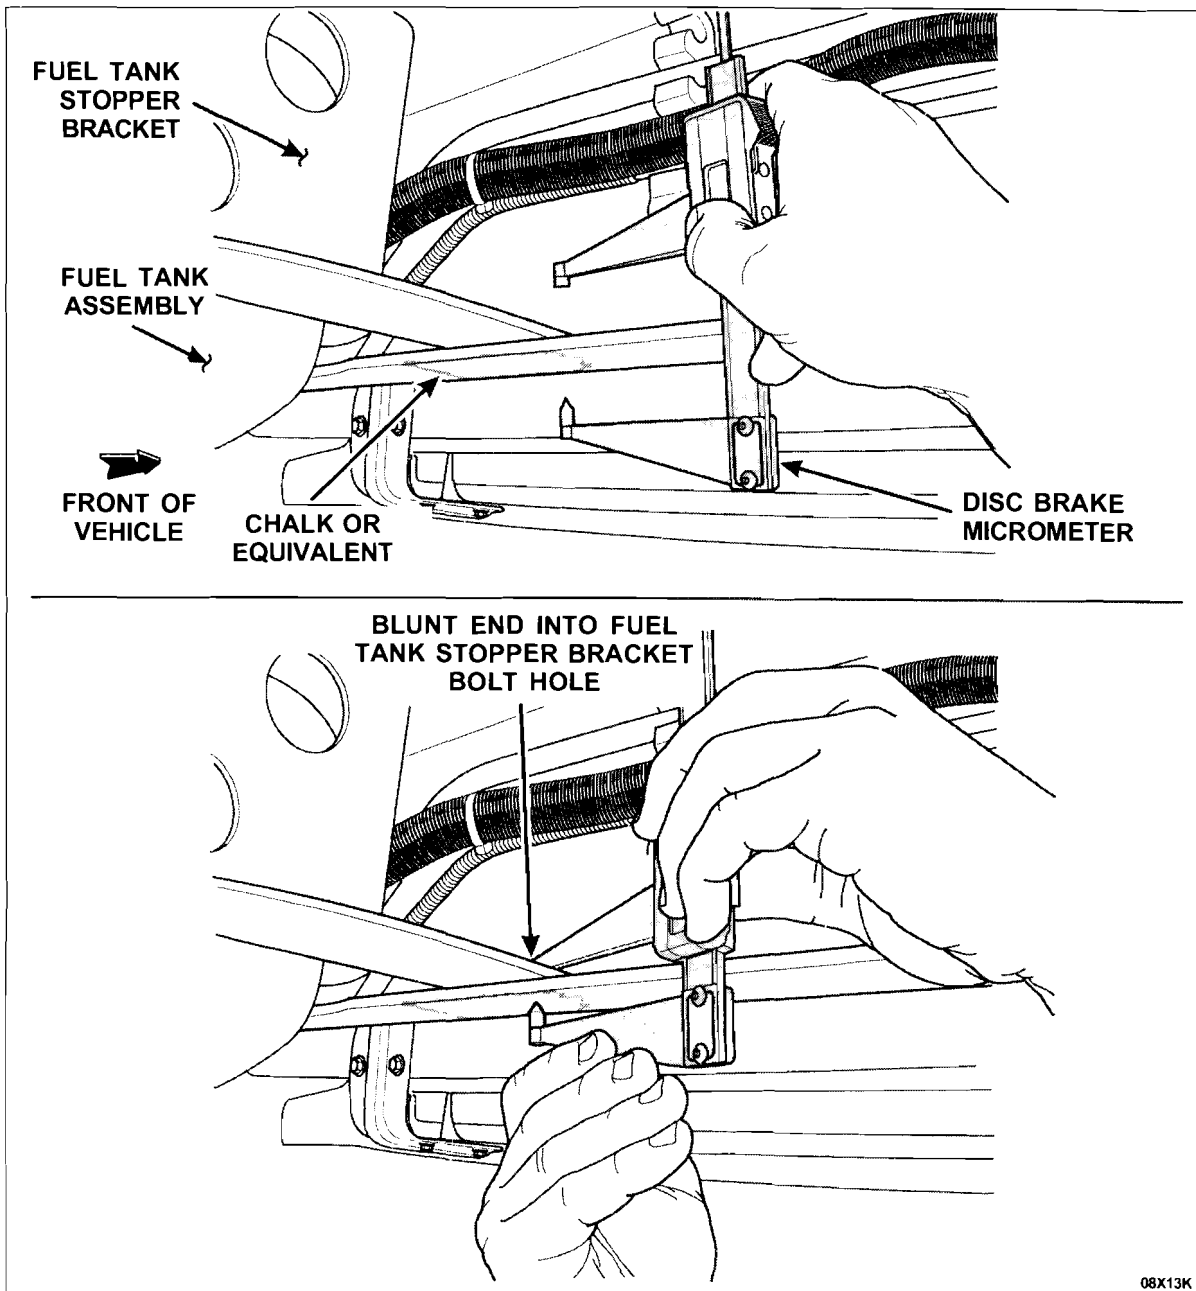

FIGURE 11
- Using a disc brake micrometer, position the blunt end of the micrometer into the fuel tank stopper bracket bolt hole inside of the frame rail and snug the micrometer up to the frame rail. See Figure 11.